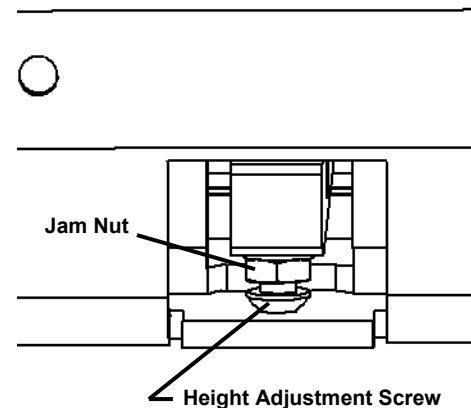

Figure 4-16
2. Loosen the jam nut on each of the two vacuum head height adjustment screws. They can be accessed through the cutouts in the frame at the front of the machine (see Figure 4-16).